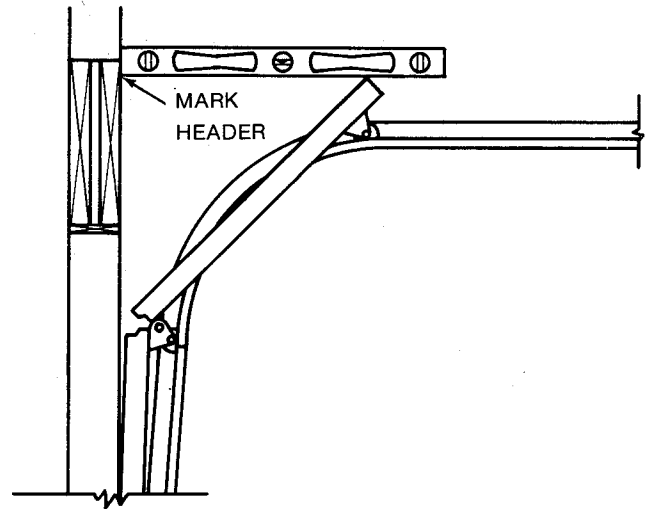

FIGURE 2.
- 2.) Raise door and locate high point of door travel (see Figure 2.). Place level across the top of the door to the door header. Mark the bottom edge of level where it touches header.